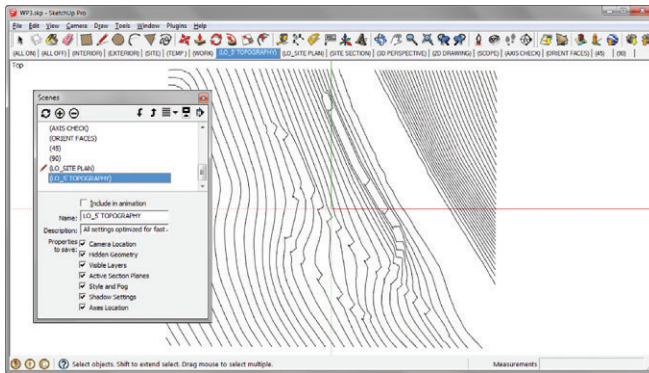

Figure 15.19 The completed LO_5' TOPOGRAPHY scene in SketchUp
7. Slide the new scene to the end of the line by clicking on the Move Scene Down button near the top-right corner of the Scenes dialog (Figure 15.19).